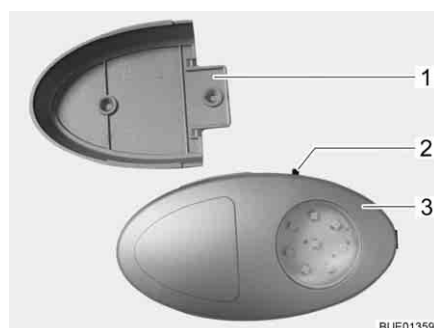

Fig. 65 Wardrobe light
- ▷ The wardrobe light can be removed from its holder (Fig. 65, 1) and used as a torch.
The On/Off switch (Fig. 65, 2) is located directly on the wardrobe light (Fig. 65, 3).